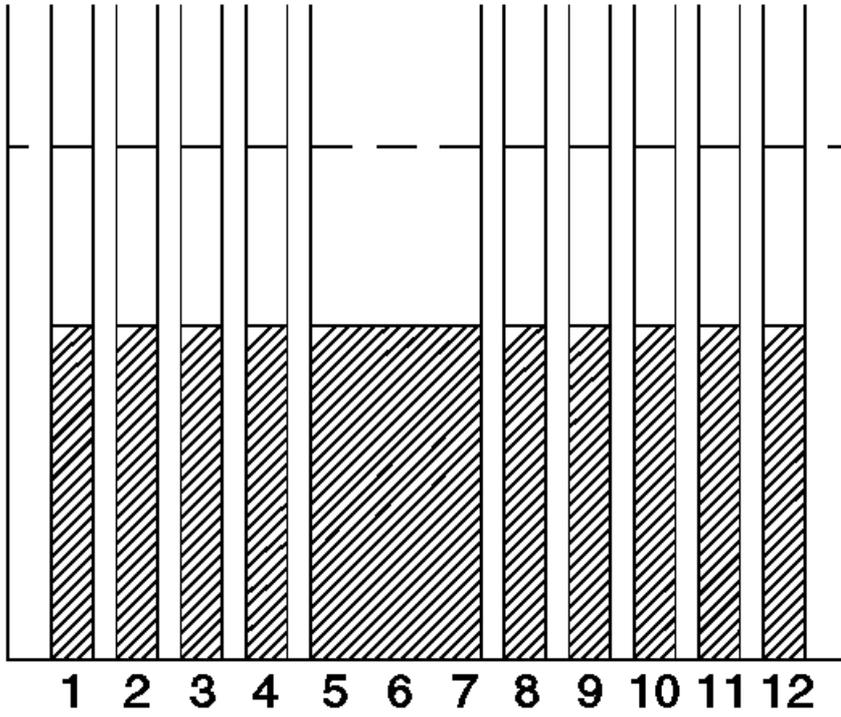

Figure 6-35. Print Head Cable Connector
- Disconnect the print head cable from J5 on the printer card. See Figure 6-38 in topic 6.36 for the locations of the printer card connections. See Figure 6-35 for the locations of the print head cable connector strips.